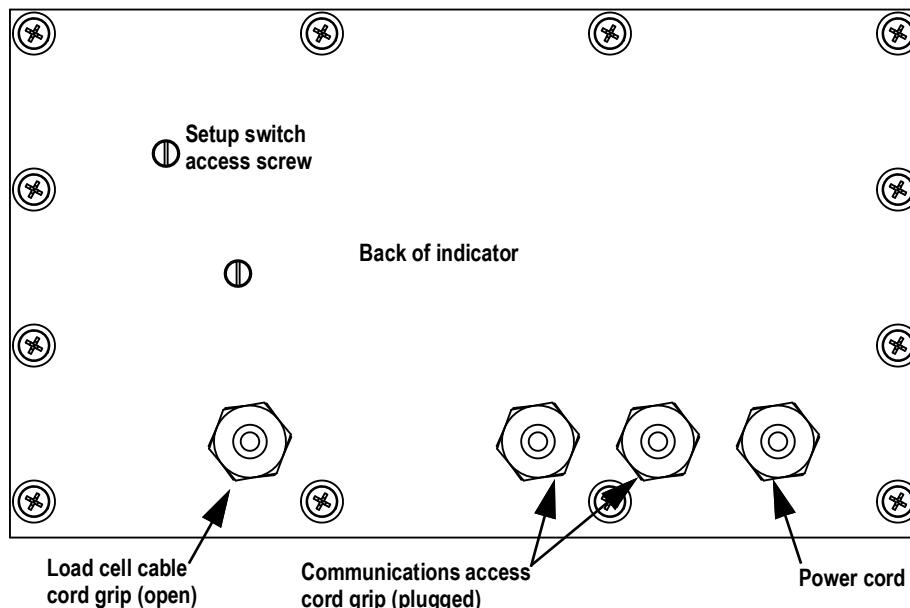

Figure 2-1. Recommended Cord Grip Assignments
1. Remove the setup switch access screw from the back of the enclosure, See Figure 2-1 on page 17.
The 482 provides four cord grips for cabling into the indicator: one for the power cord, three to accommodate load cell, communications, digital inputs and outputs, and analog output cables. Two of the three free cord grips come with a plug installed to prevent moisture from entering the enclosure. Depending on the application, remove the plug from another cord grip that will be used and install cables as required, See Figure 2-1 for the recommended assignments for the 482 cord grips.